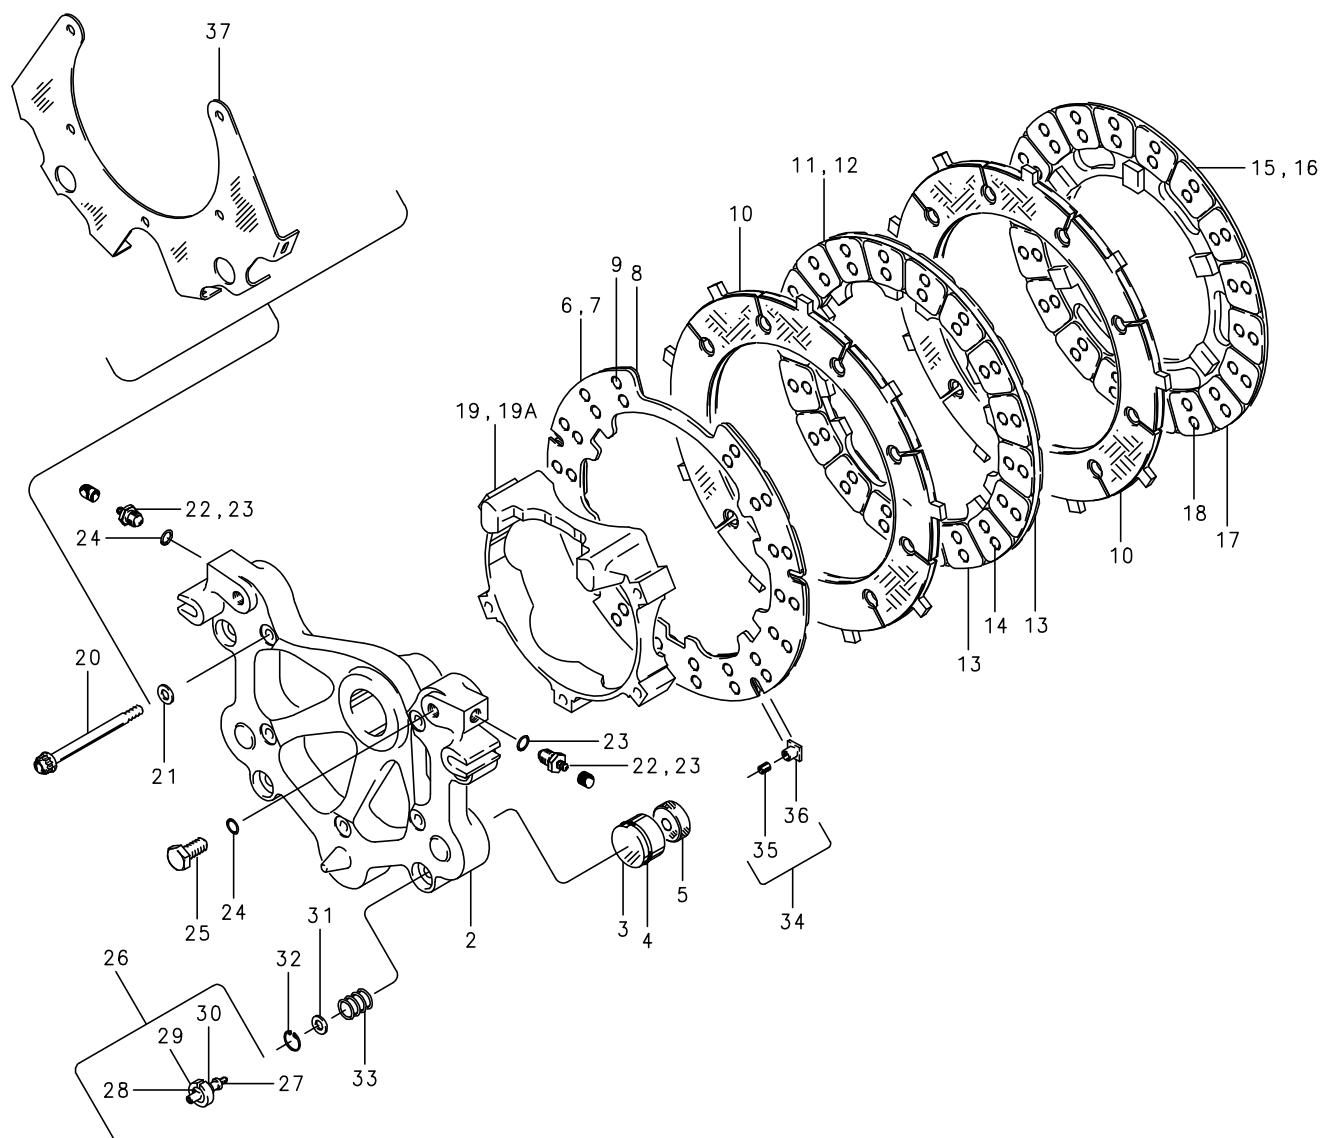

FIGURE 1
- G. Install each of the five pistons (as shown in Figure 1) into the Cylinder (Item #2), and each of the five piston Insulators (Item #5) into the Pistons (Item #3). Push and rotate the pistons (do not cock) until they seat in the bottom of the bore.
NOTE: Be sure to position the pressure plate assembly carved out section at the top of the cylinder as shown in Figure 1.
- O. Slide the Torque Ring (Item #19), positioned as shown in Figure 1, onto the five Bolts (Item #20) and up against the Cylinder (Item #2).
- * If the aircraft is equipped with the optional brake de-icing equipment, the Bolts (Item #20) pass through the Mounting Bracket (Item #37), then the Washers (Item #21), then through the Cylinder (Item #2). See Figure 1.
- B. The Figure item column provides the cross reference between the parts list and IPL Figure 1.
KEY TO FIGURE 1